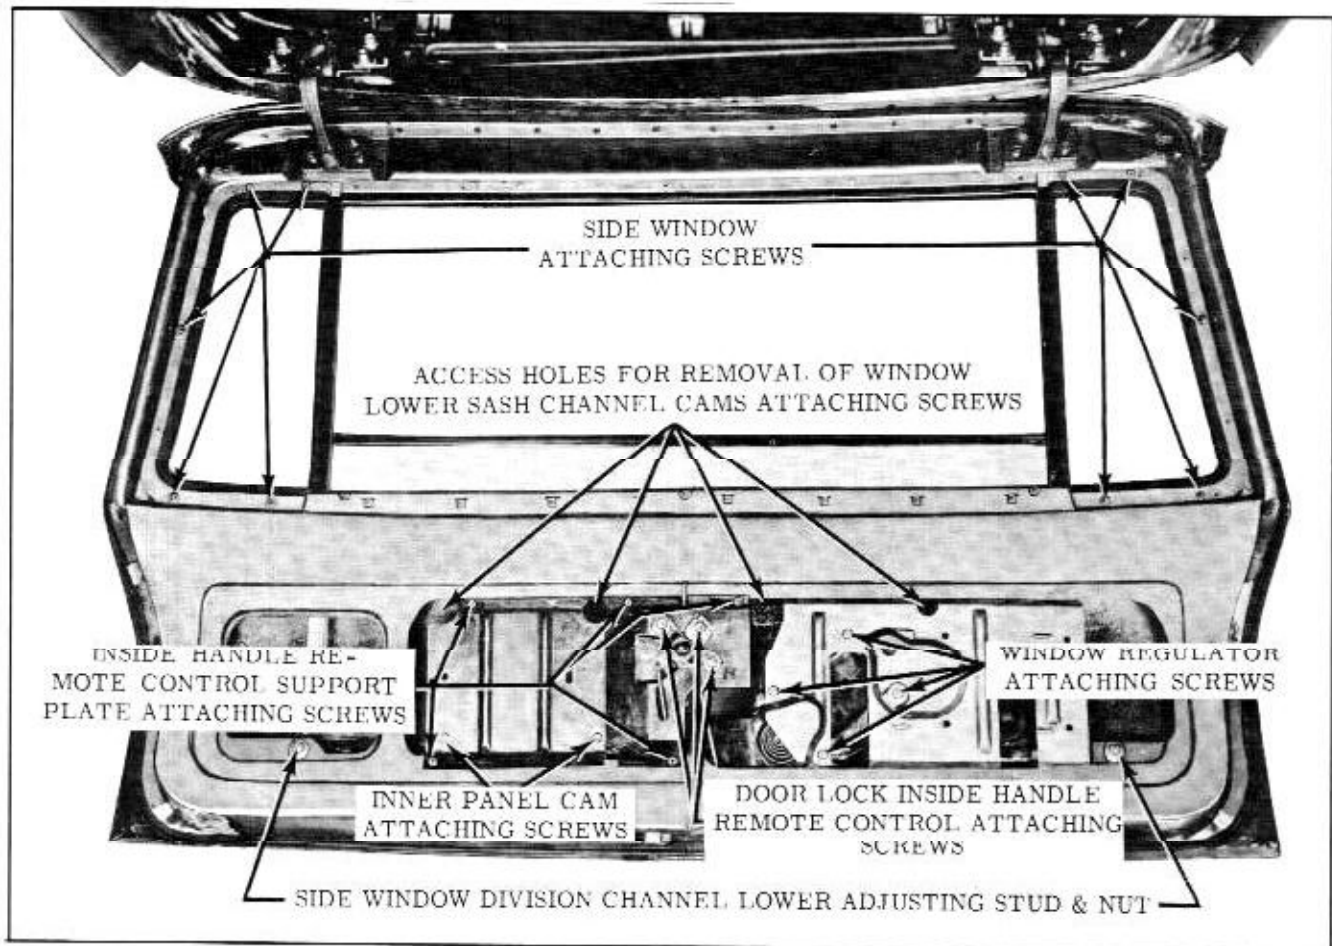

Fig. 15-36 Back Door Window Mechanism
2. Remove remote control attaching screws. (Fig. 15-36) Disengage locking rods from remote control and remove remote control from back door.
3. Remove remote control support plate attaching screws. (Fig. 15-36) Move support plate towards right side of door to disengage inner panel cam from regulator arm roller and remove support plate.
2. Remove remote control attaching screws. (Fig. 15-36) Disconnect remote control from connecting rod and remove remote control.
2. Remove remote control attaching screws. (Fig. 15-36) Disconnect remote control assembly from locking rod and remove remote control from back door.